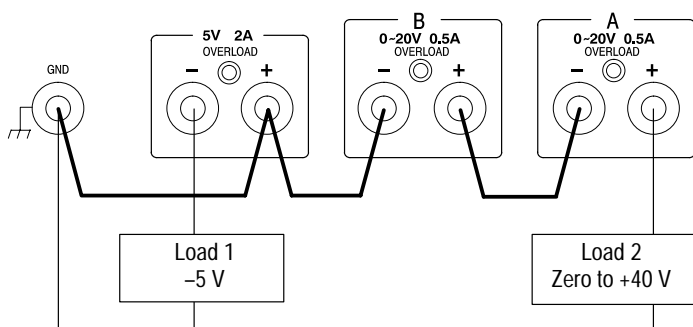

Figure 6: Connecting the Two 0-20 V Supplies in Series to Product 0 to +40 V
Figure 6 shows the power supply connected in series to produce a variable output of 0 + 40 V, ground referenced, and -5 V, ground referenced. The **VOLTAGE** and **CURRENT** controls are in series. The **V** meter reads only one supply at a time and the **mA** meter reads total current in either position. To read the total voltage the readings from the A position and B position must be added. To set up this configuration, proceed as follows:
1. Turn **POWER** to **OFF**, and connect the outputs as shown in Figure 6.